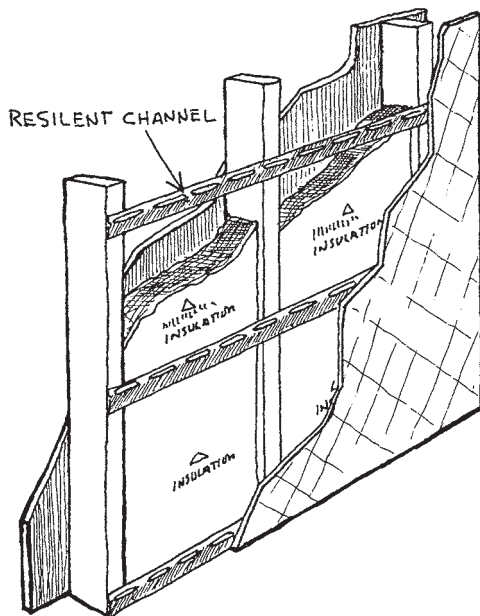

FIGURE 21.13
- An additional sound control relies on resilient channels, U-shaped metal strips, applied to wall studs and ceiling joists with a ½-inch by 3-inch gypsum nailing strip at the bottom. The channels help break up sound waves and isolate noise. Fiberglass or mineral wool batts should be stapled in the stud spaces. Since the channels are resilient, they deaden sound transmission (Fig. 21.13).